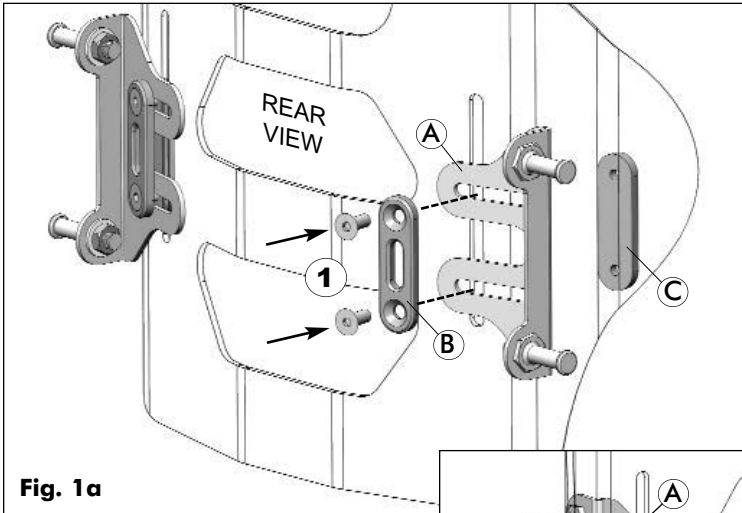

Fig. 1a
**i NOTE:** Prior to installing the Quick Release (QR) Mounting Brackets Carefully remove the MX2 cover by releasing the velcro hook and loop fasteners along the top & bottom edge and inside of the back shell.
- 1 Working on one side of the back shell, install the quick-release mounting bracket (A) onto the Matrix MX2 back shell as follows:
- Align the washer plate (B) with the slots in the mounting bracket (A) and insert screws through both components (1); (Refer to Fig. 1a (p.18))